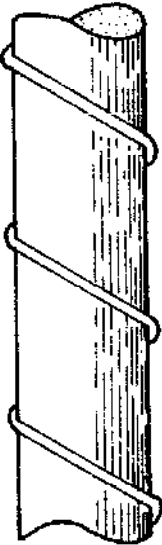
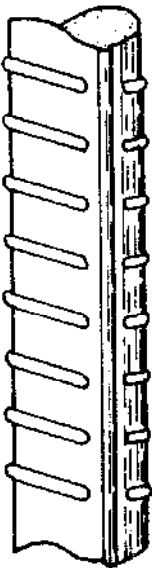

Fig. 2
Fig. 3
- **RIBBED BARS:** The round bars with a ribbed surface are called ribbed bars and are available in diameters ranging from 6 mm to 40 mm, if the bar is cross-ribbed (Fig. 2, next page). For obliquely ribbed bars, the diameters range from 6 mm to 28 mm (Fig. 3, next page). This last type of reinforcement is also called "tutor bar" and it is the strongest reinforcement steel available.